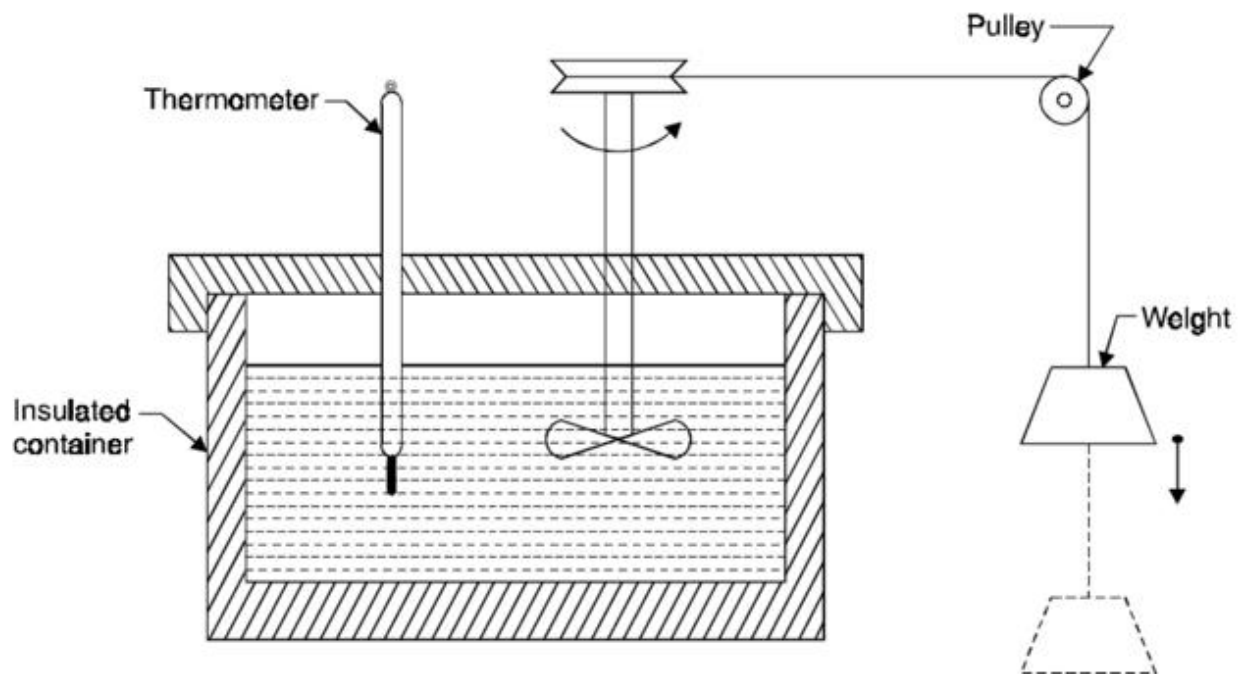

Fig. 2.2 Joule's paddle-wheel experiment
- The first law can be illustrated by considering the following experiment (Fig. 2.2).